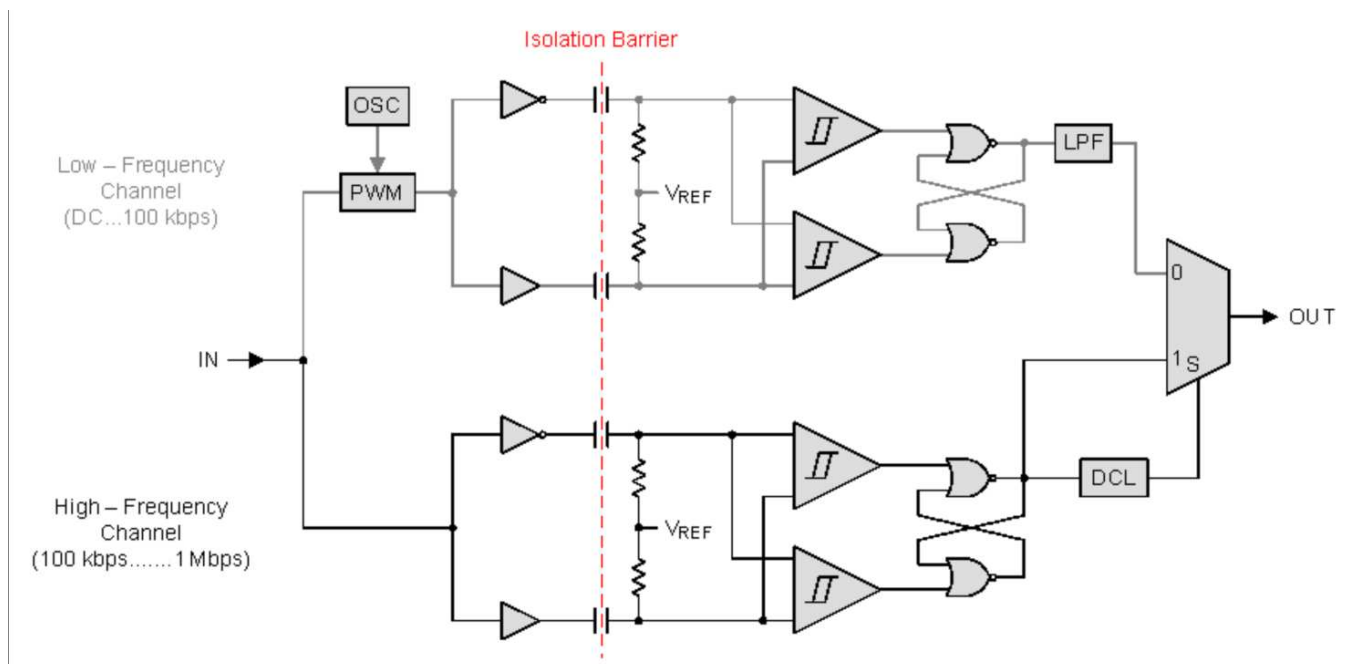

Figure 9. Conceptual Block Diagram of a Digital Capacitive Isolator
The ISO7421 digital isolator has two isolated channels. The ISO7421 provides galvanic isolation up to 2500VRMS for one minute per UL. The isolator in Figure 9 is based on a capacitive isolation barrier technique. The I/O channel of the device consists of two internal data channels, a high-frequency channel (HF) with a bandwidth from 100 kbps up to 1 Mbps, and a low-frequency channel (LF) covering the range from 100 kbps down to DC. In principle, a single-ended input signal entering the HF-channel is split into a differential signal via the inverter gate at the input. The following capacitor-resistor networks differentiate the signal into transients, which then are converted into differential pulses by two comparators. The comparator outputs drive a NOR-gate flip-flop whose output feeds an output multiplexer. A decision logic (DCL) at the driving output of the flip-flop measures the durations between signal transients. If the duration between two consecutive transients exceeds a certain time limit, (as in the case of a low-frequency signal), the DCL forces the output-multiplexer to switch from the high- to the low-frequency channel.